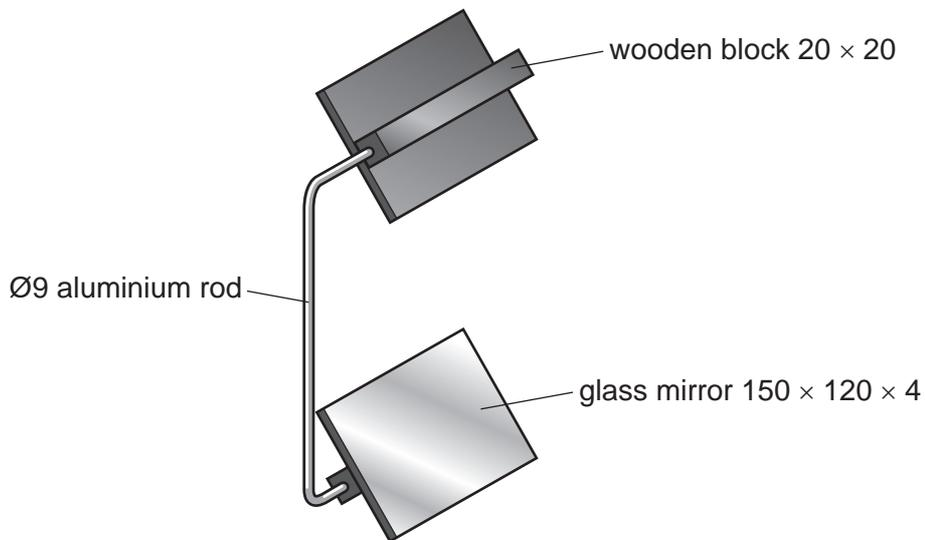

Fig. 11
- (e) Fig. 11 shows a design for an open frame periscope. The glass mirrors are glued into wooden blocks. The aluminium rod is bent to shape and glued into the wooden blocks.